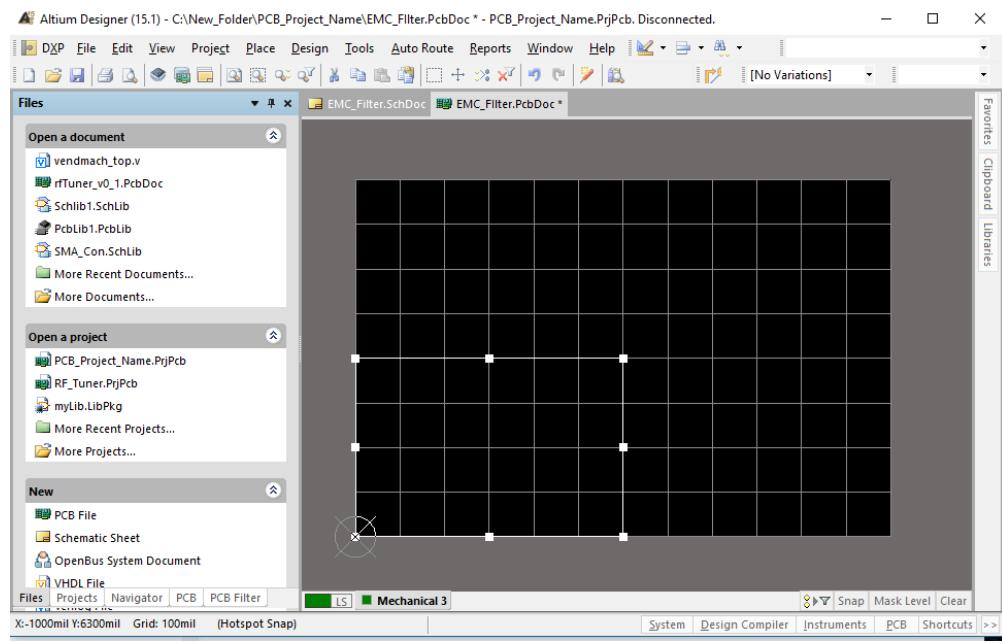
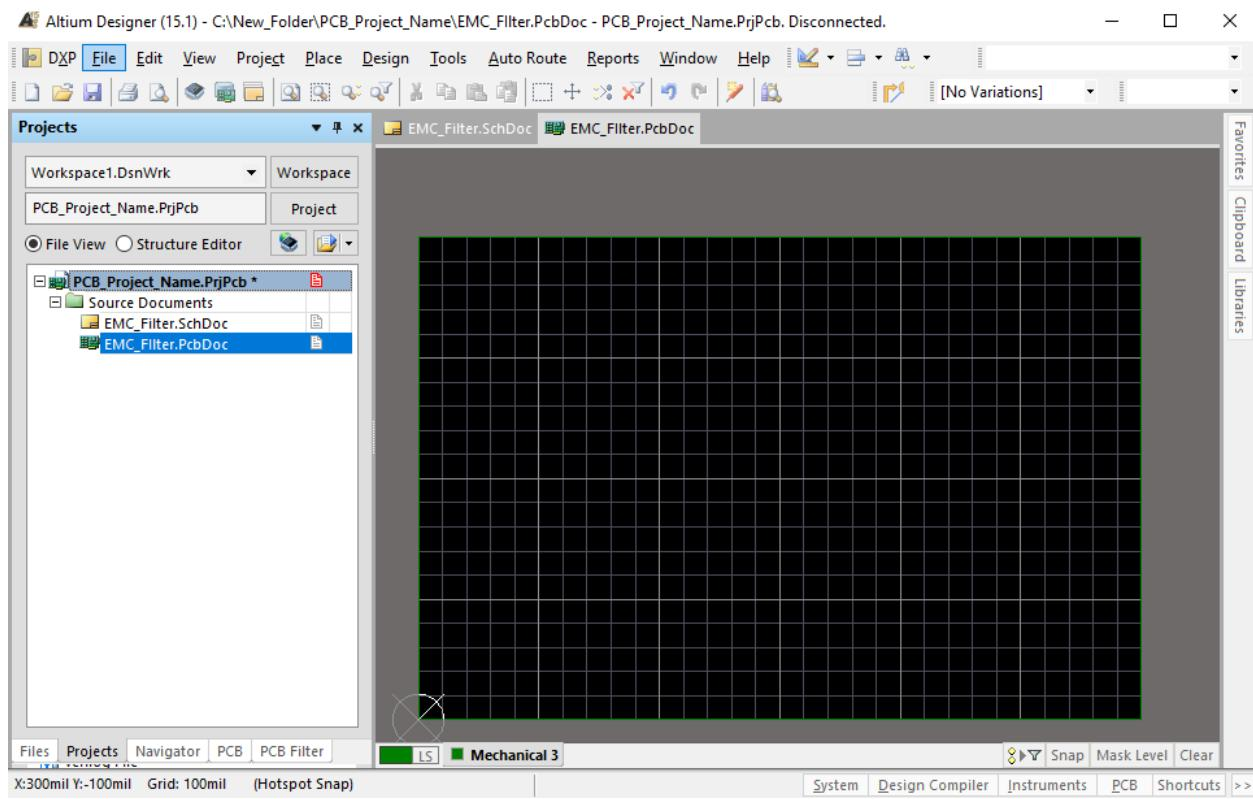

Figure 72: Altium PCB board outline selected.
Figure 74: Altium PCB board defined board outline or board shape.
45. The board outline is defined by a line, so press **P** for place and **L** for Line. Draw the desired board outline started by the point of origin. The board board size chosen is **3” x 2”** inches. use the Heads up display to see how many mills you draw the line which has a delta function that calculates the length of line in x and y direction for you. The board layout should look similar to Figure 72. To define the drawn lines as board shape select all lines than in menu bar chose **Design** → **Board Shape** → **Define from selected objects**. Your screen should look similar as Figure 74.